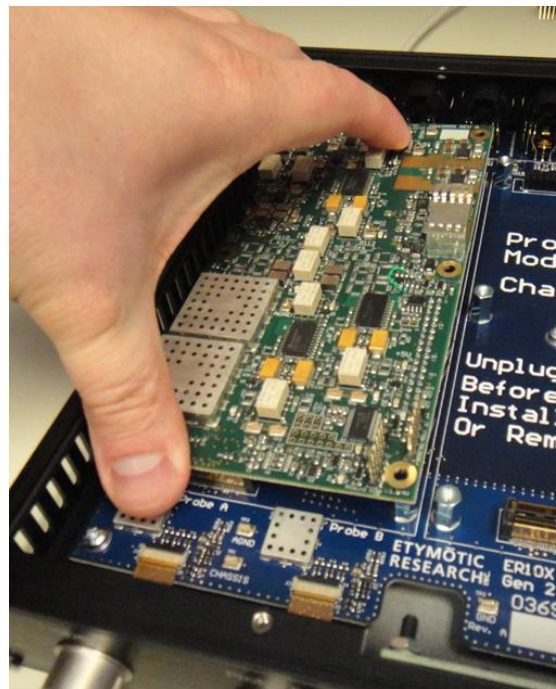

Figure 23
4. Push down on all three connectors again to verify that all three connectors are completely seated as shown in Figure 23.